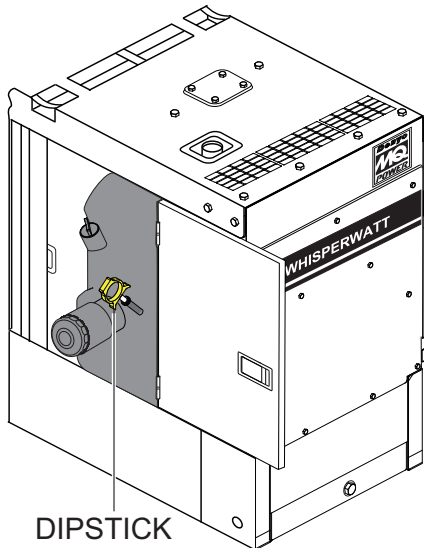

Figure 28. Engine Oil Dipstick
2. Remove the **engine oil dipstick** from its holder (Figure 28) and wipe it clean.